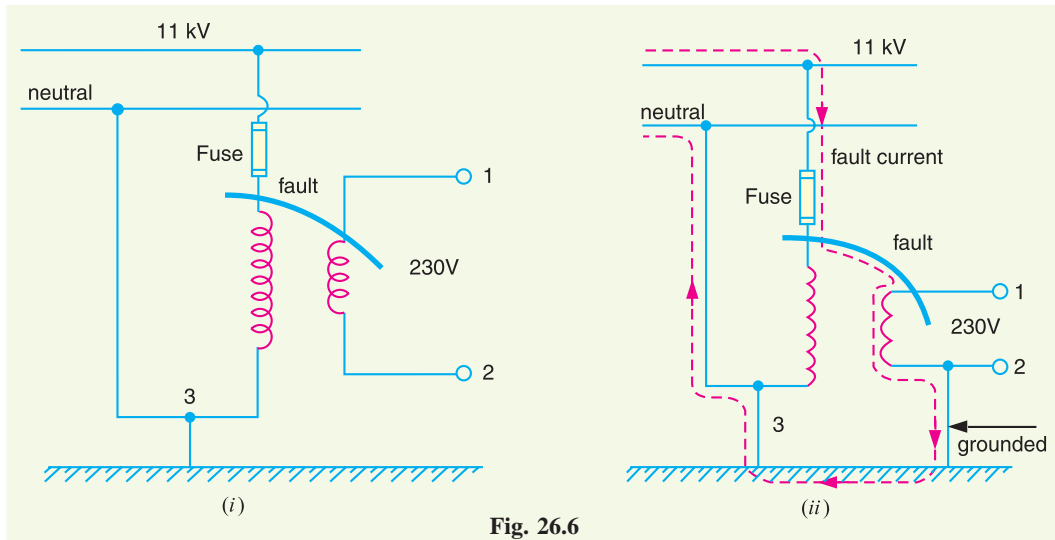

Fig. 26.6
- (ii) Let us now turn to a more serious situation. Fig. 26.6 (i) shows the primary winding of a distribution transformer connected between the line and neutral of a 11 kV line. The secondary conductors are ungrounded. Suppose that the high voltage line (11 kV in this case) touches the 230 V conductor as shown in Fig. 26.6 (i). This could be caused by an internal fault in the transformer or by a branch or tree falling across the 11 kV and 230 V lines. Under these circumstances, a very high voltage is imposed between the secondary conductors and ground. This would immediately puncture the 230 V insulation, causing a massive flashover. This flashover could occur anywhere on the secondary network, possibly inside
If one of the secondary lines is grounded as shown in Fig. 26.6(ii), the accidental contact between a 11 kV conductor and a 230 V conductor produces a dead short. The short-circuit current (*i.e.* fault current) follows the dotted path shown in Fig. 26.6 (ii). This large current will blow the fuse on the 11 kV side, thus disconnecting the transformer and secondary distribution system from the 11 kV line. This explains the importance of system grounding in the line of the power system.